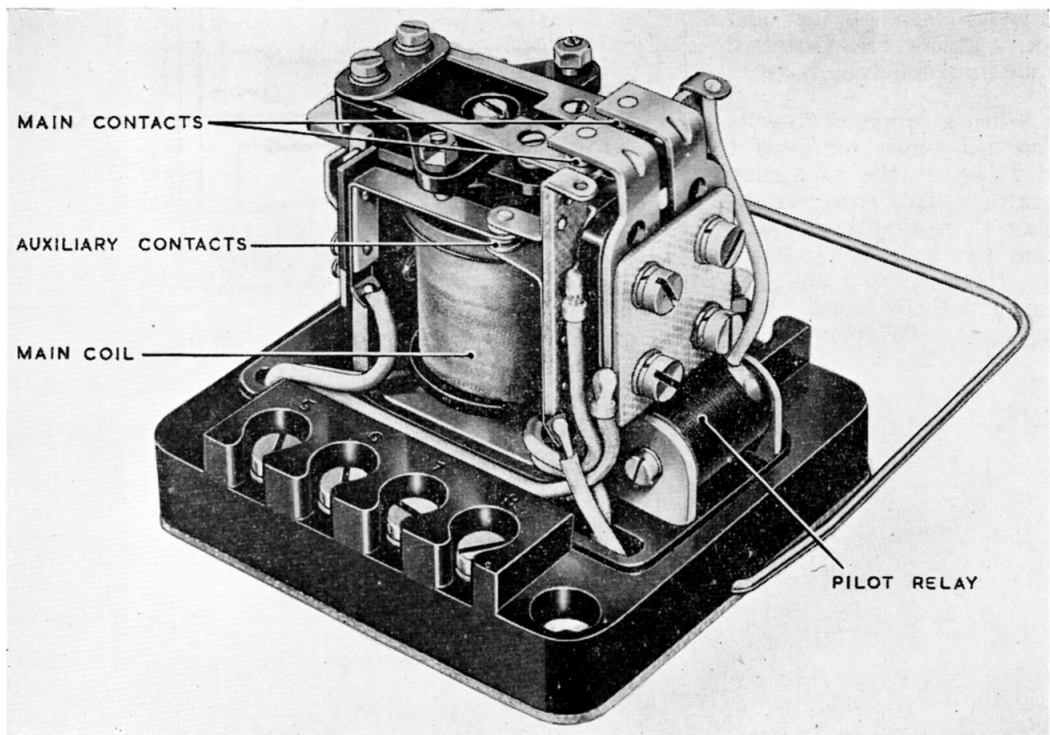

Fig. 1. Type 3B, magnetic switch
1. The Type 3 B magnetic switch (*fig. 1*) is designed for use in aircraft electrical systems as a time delay relay. The relay operates one set of main changeover contacts and one pair of auxiliary, normally open, contacts. Provision is made to use the latter as change-over contacts if required. Time delay is achieved by a slugged coil on the main relay, and by a pilot relay which operates to bring in the main relay coil, the pilot relay being taken out of circuit by the operation of cut-out contacts.